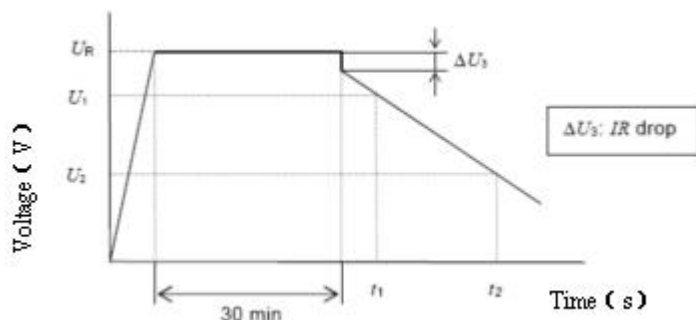

Figure 2 – Voltage characteristic between capacitor terminals
- Unless otherwise specified in the individual standards, measure the time t_1 and t_2 where the voltage between capacitor terminals at the time of discharge reduces from U_1 to U_2 as shown in Figure 2, and calculate the capacitance value by the following formula: